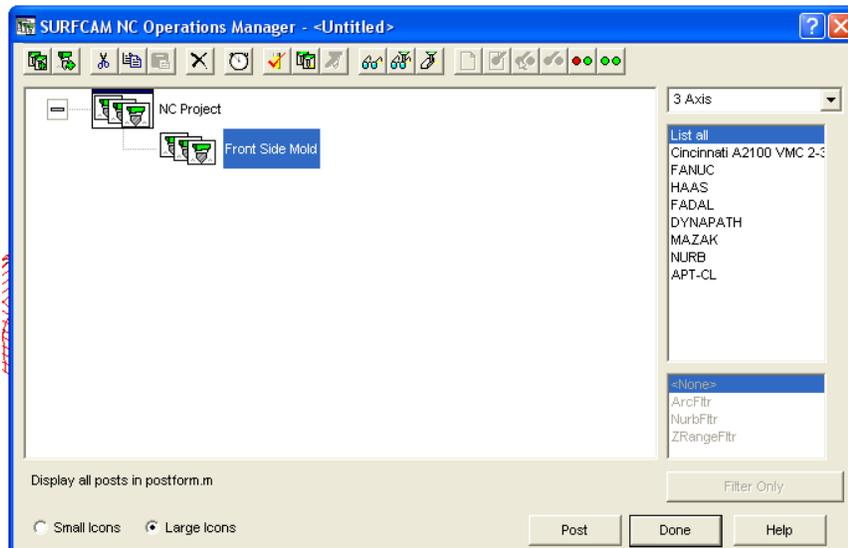

Figure 6 Operations Manager view showing setup one re-labeled as Front Side Mold
4. In the Operations Manager (Figure 6) select Setup One and change the name to something meaningful – like Front Side Mold Cavity